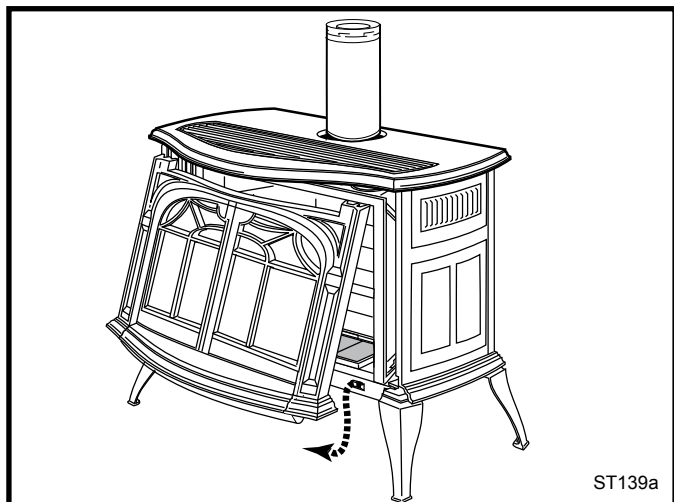

Fig. 85 Remove the stove front.
Replace glass only with Vermont Castings Group approved parts. Refer to Replacement Parts section for correct glass. Refer to Figure 85 and previous instructions for removal of the damaged glass frame.
1. Remove the Front, Glass Frame and Glass Panel. (Figs. 85 & 86) Remove the old gasket. Use a razor blade to separate the glass and gasket from the frame, and to clean the glass of any remaining cement or bits of gasket. Use a cold chisel if necessary.